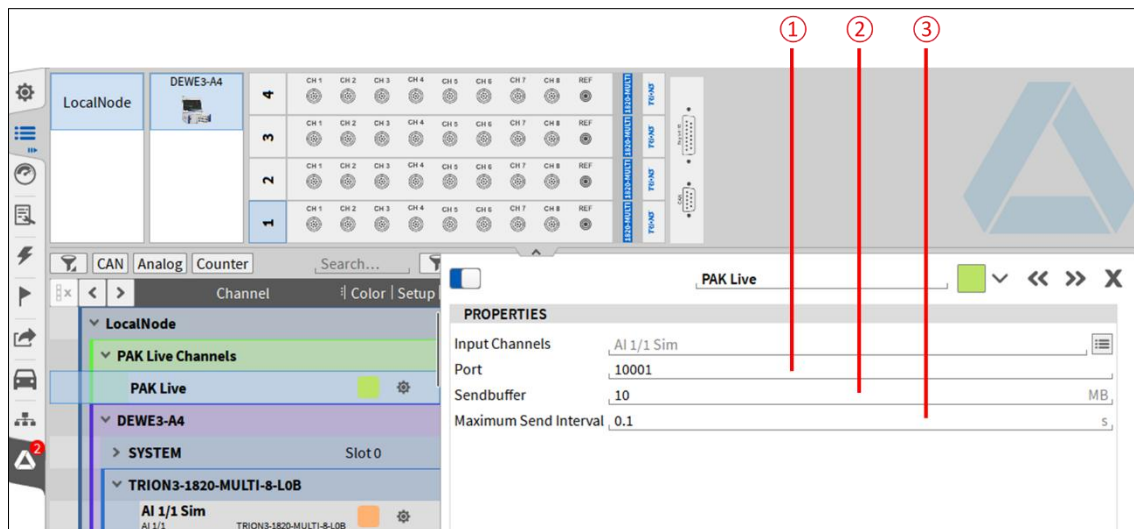

Figure 4: Properties of PAK Live channel
9. Enter the desired port number (see ① in Figure 4)
10. Enter the “Sendbuffer” size in MB (see ② in Figure 4). The default setting of 10 MB should cover most applications. In case of a high throughput, e.g. when a large number of channels will be transmitted, or with a very high sampling rate, it makes sense to increase the buffer.
11. Enter the “Maximum Send Interval” in sec. (see ③ in Figure 4) This is the maximum time between 2 sent blocks via the PAK interface. The default setting of 0.1 sec should cover most applications.